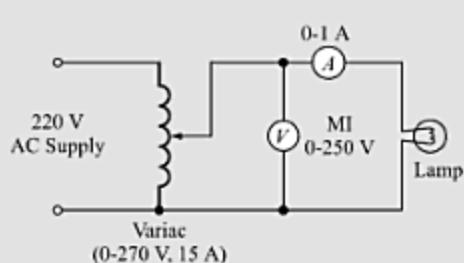

Fig. 2.55 Experimental circuit.
**Circuit Diagram** The circuit diagram is shown in Fig. 2.55.
1. Make connections as given in Fig. 2.55, using tungsten filament lamp.